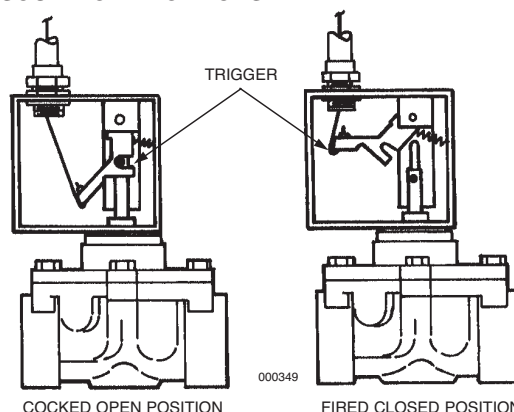

FIGURE 63
13. Cock mechanical gas valve as shown in Figure 63. **Note:** A valve cocking tool is available. Order Part No. 416018.